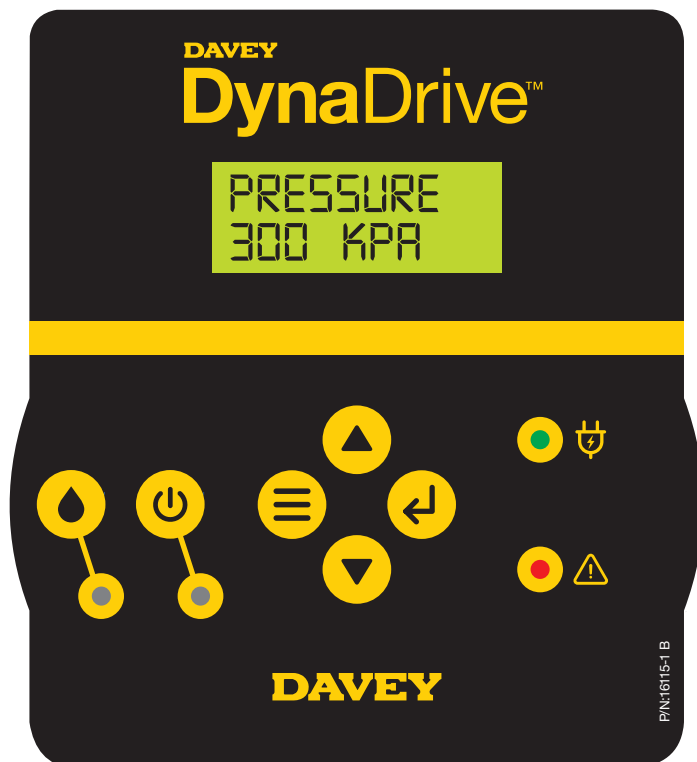

Figure 6.11
- To change the set pressure, use the ▲ **Menu up button** or ▼ **Menu down button**. Pressure changes are in multiples of 10kPa for DD60-10(CE) and DD90-11(CE) models, and 5psi for NPT model variants.
- Once you've reached your new set point, see figure 6.11;